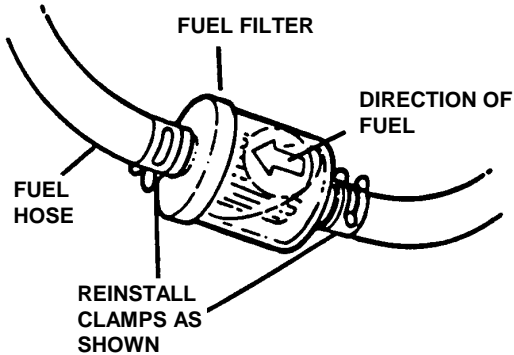

FIGURE 4.8
3. Install new fuel filter. Reinstall hose clamps. See Figure 4.8.